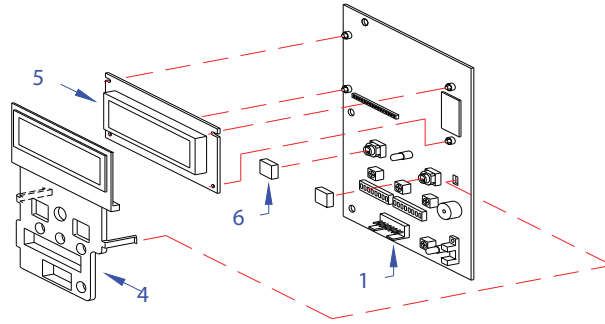

Figure 7-10b, Panel & LCD Board Replacement
- 5 Detach clear cover (4, Figure 7-10b) from defective panel board (1) followed by LCD board (5).
- 6 Attach original or replacement LCD board (5) to original or replacement panel board (1) as necessary.